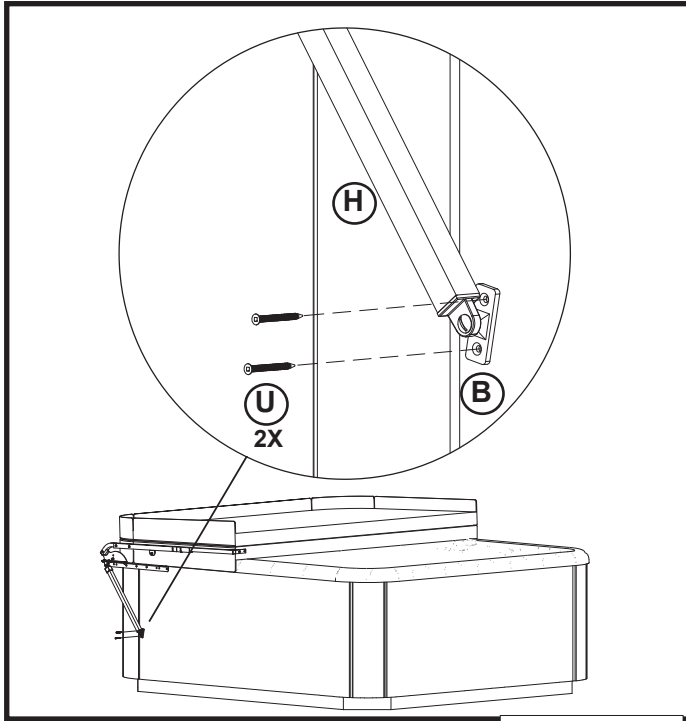

Figure 6.2
2. Using the Side Hinge (B) as a template, mark the two holes on the side of the spa cabinet (Figure 6.2).
3. Drill the two marked holes using a 1/8" (3mm) bit with approximately 1/2" (12.5 mm) maximum depth (Figure 6.2).
- Attach the Side Hinge to the side of the spa cabinet using (2) 2" Flat Head Screws (Figure 6.2). Bag # 2 (U) (#10 2" Flat Head screws).